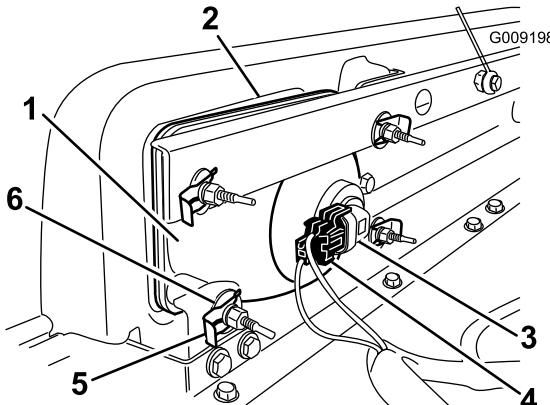

Figure 40
1. Disconnect the electrical connector for the harness from the connector of the lamp assembly (Figure 40).
2. Remove the speed clips and washers that secure the headlight to the headlight bracket (Figure 40).
3. Remove the headlight assembly by moving it forward through the opening in the front bumper (Figure 40).
4. Install the new headlight through the opening in the bumper (Figure 40). Ensure the adjustment posts are lined up with the holes in the mounting bracket behind the bumper.
6. Connect the electrical connector for the harness to the connector of the lamp assembly (Figure 40).